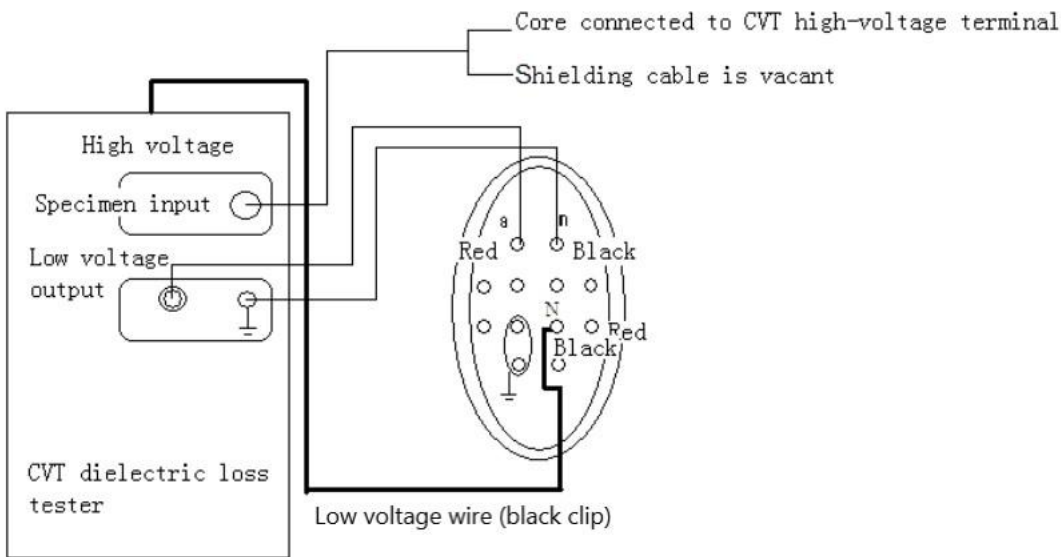

Figure 14 Measuring C1
(2) Measuring C1: the wiring is shown in Figure 14. The basic operation is the same as that of measuring C2.